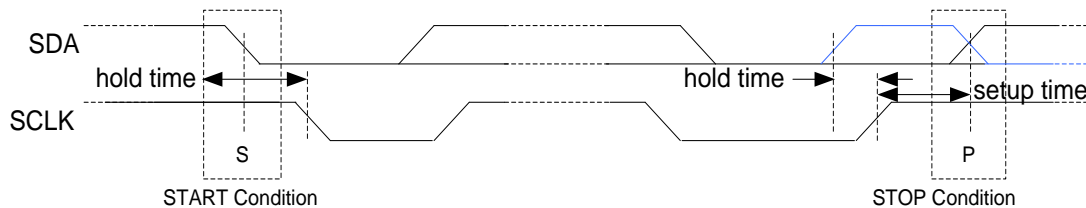

Figure 29. START and STOP (or repeated START) condition
The idle I²C bus state occurs when both SCLK and SDA are not being driven by any master and are therefore in a logic HI state due to the pull up resistors. Every transaction begins with a START (S) signal and ends with a STOP (P) signal. A START condition is defined by a high to low transition on the SDA while SCLK is high. A STOP condition is defined by a low to high transition on the SDA while SCLK is high. START and STOP conditions are always generated by master. This slave module also supports repeated START (Sr) condition which is same as START condition instead of STOP condition (Blue color line shows repeated START in Figure 29).